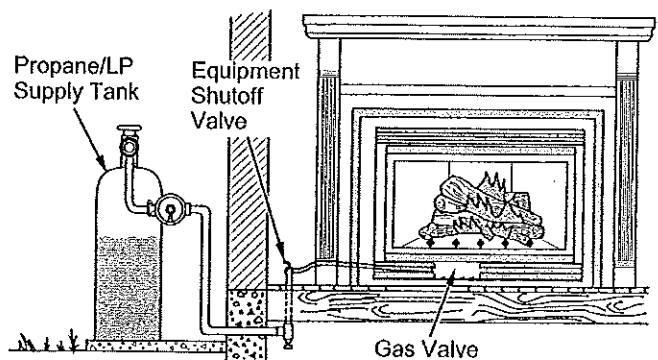
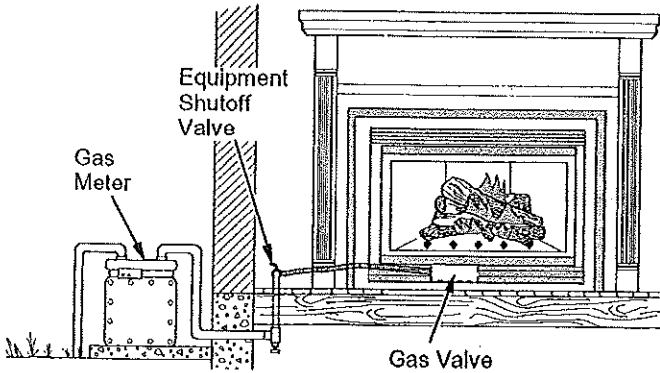

Figure 34 - Checking Gas Joints for Propane/LP Gas Fireplace
Figure 35 - Checking Gas Joints for Natural Gas Fireplace
3. Check all joints from propane/LP supply tank or gas meter to equipment shutoff valve (see Figure 34, for propane/LP or Figure 35, page 21, for natural gas). Apply noncorrosive leak detection fluid to all joints. Bubbles forming show a leak. Correct all leaks at once.
4. Check all joints from equipment shutoff valve to gas valve (see Figure 34 for propane/LP or Figure 35 for natural gas). Apply noncorrosive leak detection fluid to all joints. Bubbles forming show a leak. Correct all leaks at once.